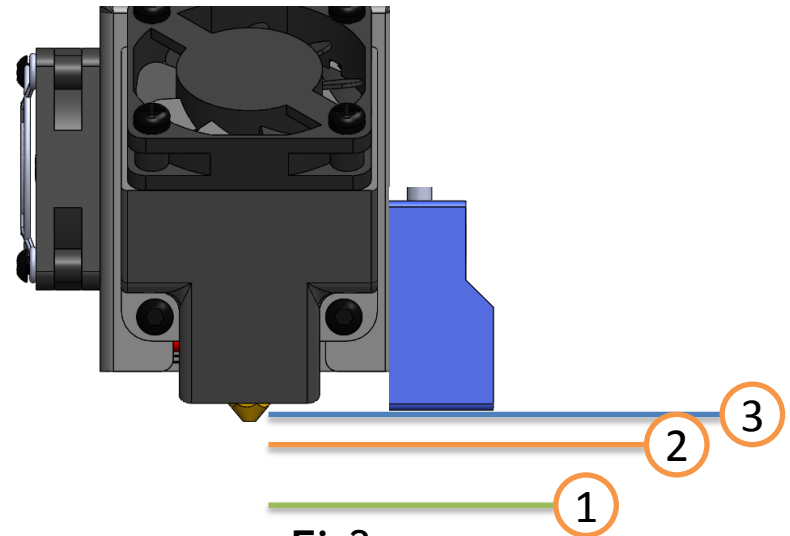

Fig2
3. Adjust the position of Z-axis limit switch (the printer which Z-axis limit switches is removable, such as Z5, Z6, Z8S, etc.) or adjust the "Z height adjustment screw" (the printer which Z-axis limit switches is fixed but there is a screw to adjust the Z height, such as P802N, Z9, etc.), and let their position to meet the following conditions (Fig 2).
- ① *If hot bed is at this height, the sensor is released (LED turn off).*
- ② *If hot bed is at this height, the sensor is triggered (LED light up).*
- ③ *If hot bed is at this height, Z ENDSTOP is triggered.*